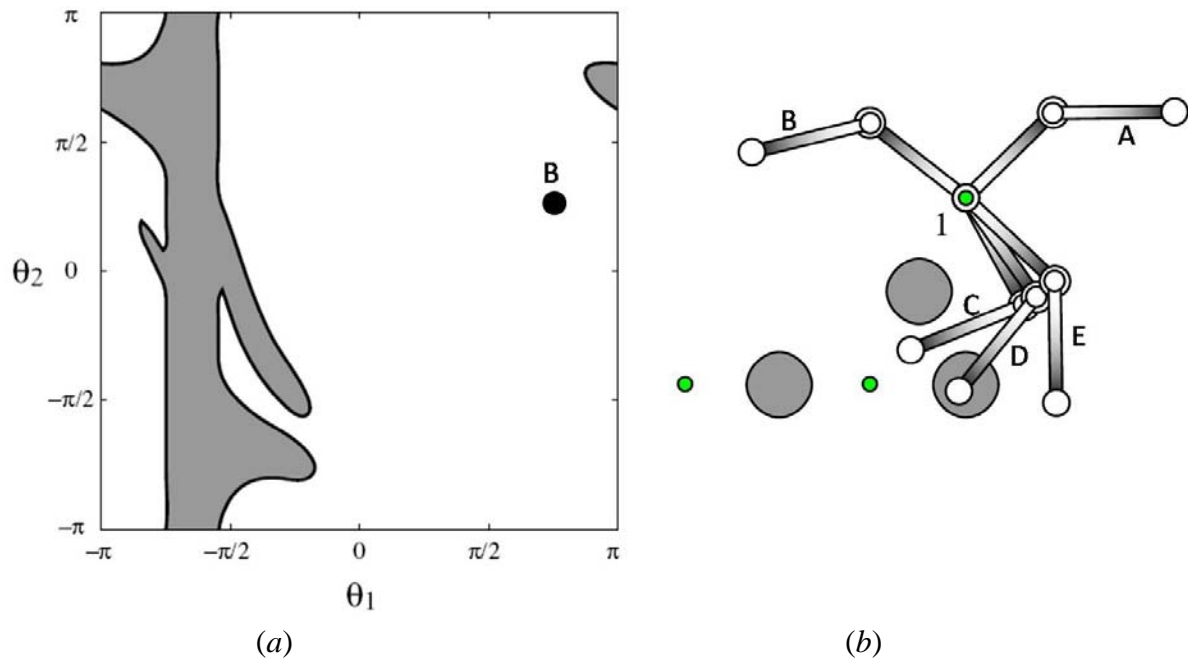

Figure 6: Configuration space of R at peg 1
- (i) Figure 6(a) shows the configuration space of R when it is attached to peg 1. The gray region is the region where the robot collides with an obstacle. Represent each of the 5 configurations labeled A, C, D, and E in Figure 6(b) by a bold point
in Figure 6(a). Besides each of the 5 point indicate clearly the corresponding configuration (A, C, D, or E). To help you I have already mapped configuration labeled B in this space.
- (ii) The collision-free region for the robot is shown white in Figure 6(a). A connected component X of this region is such that any two configurations in X can be connected by a collision-free path. How many connected components does the collision-free region shown in Figure 6(a) contain? [Hint: Remember that $(\theta_1, -\pi)$ and $(\theta_1, +\pi)$ are the same configuration; so are $(-\pi, \theta_2)$ and $(-\pi, \theta_2)$.]